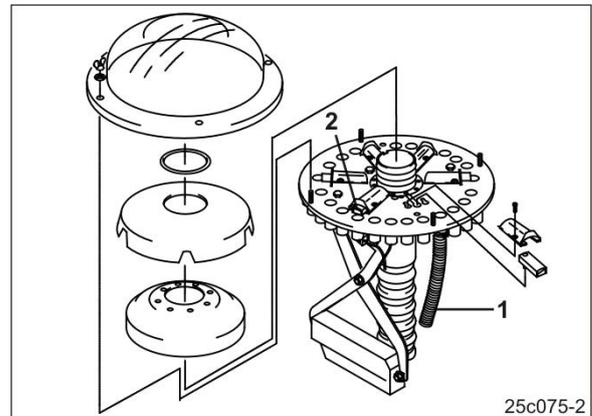

Fig. 143
- The seed line tubes (Fig. 143/1) of the tramline coulter must be fixed to the distributor head openings, which can be closed by the sliders (Fig. 143/2).
To create two tracks, it is possible to close up to 6 of the slider (Fig. 143/2) openings per track in the distributor head
- Deactivate unrequired sliders (Fig. 143/2).